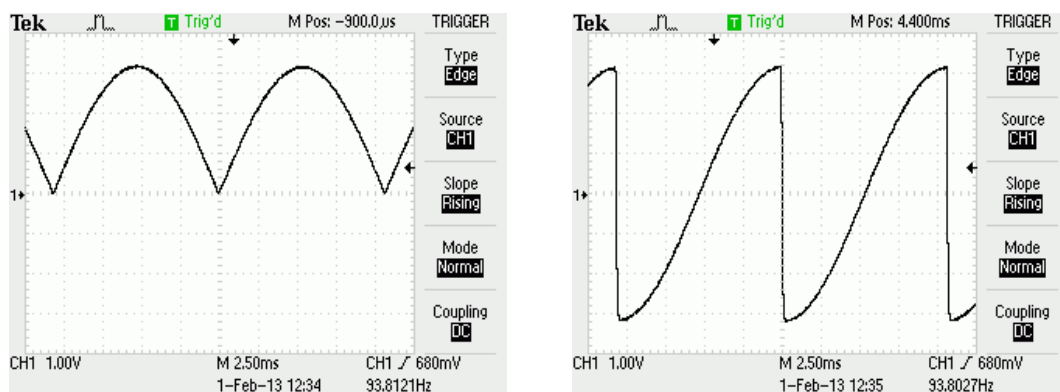

Figure 1.1: Mixer waveform at 0° (left) and 90° phase shifts (right).
4. Turn the **Time Constant** knob counterclockwise to the *min* position. Adjust the scope for 1 V per vertical division, and around 2.5 ms per horizontal division, and adjust the trigger. You should see a fully-rectified positive sine wave, as shown in Figure 1.1.
5. Turn the **Quadrant** knob one click clockwise. The signal is now 90° out of phase with the reference signal, as shown in Figure 1.1.